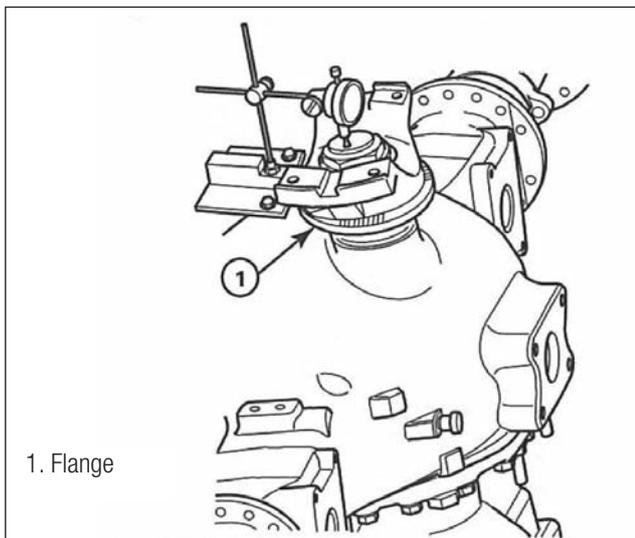

Fig. 2.128
4. Install a dial indicator so that the base of the indicator is on the axle housing. The pointer of the indicator must touch the yoke or flange end of the thru-shaft. Adjust the dial indicator to the **ZERO** setting. Figure 2.128